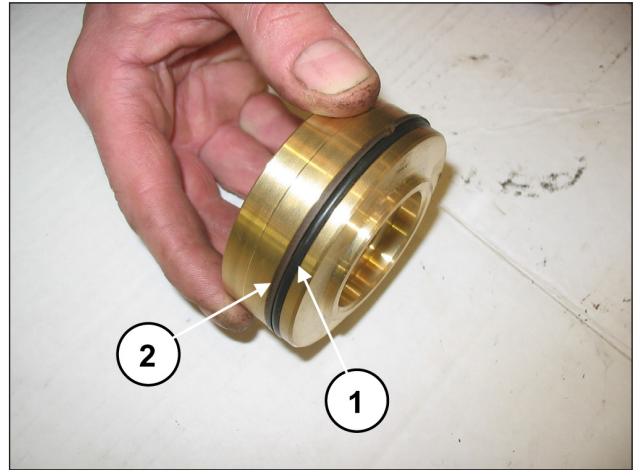

Fig. 131
Assemble the O-ring, exploded view pos. 17 (pos. ①, Fig. 131) and the anti-extrusion ring, exploded view pos. 21 (pos. ②, Fig. 131) on the outlet valve plug.